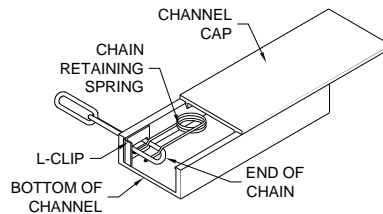

Fig. 5-1
1. Insert the end of the chain into the last slot located  $\frac{1}{2}$ " from the bottom of the channel. (Fig. 5-1)
2. Before installing the cap in step 3, make sure the L-Clip in Fig. 5-1 is installed. This will keep the cap from dragging the ground if the cap slides easily in the channel.